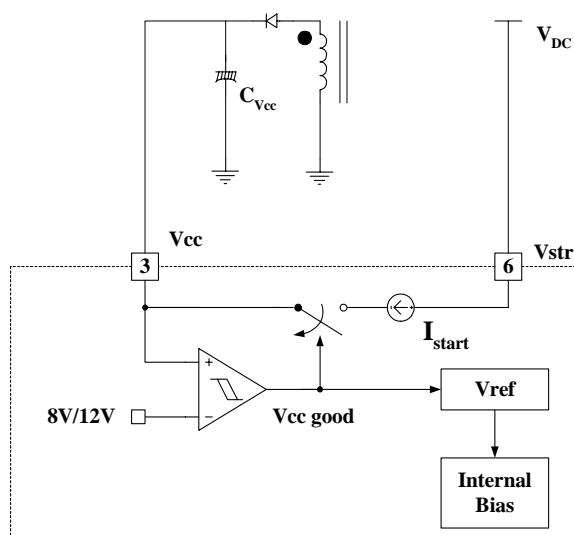

Figure 4. Internal startup circuit
**1. Startup :** In previous generations of Fairchild Power Switches (FPS™) the Vcc pin had an external start-up resistor to the DC input voltage line. In this generation the startup resistor is replaced by an internal high voltage current source. At startup, an internal high voltage current source supplies the internal bias and charges the external capacitor ( $C_{Vcc}$ ) that is connected to the Vcc pin as illustrated in Figure 4. When Vcc reaches 12V, the FSDM07652RB begins switching and the internal high voltage current source is disabled. Then, the FSDM07652RB continues its normal switching operation and the power is supplied from the auxiliary transformer winding unless Vcc goes below the stop voltage of 8V.